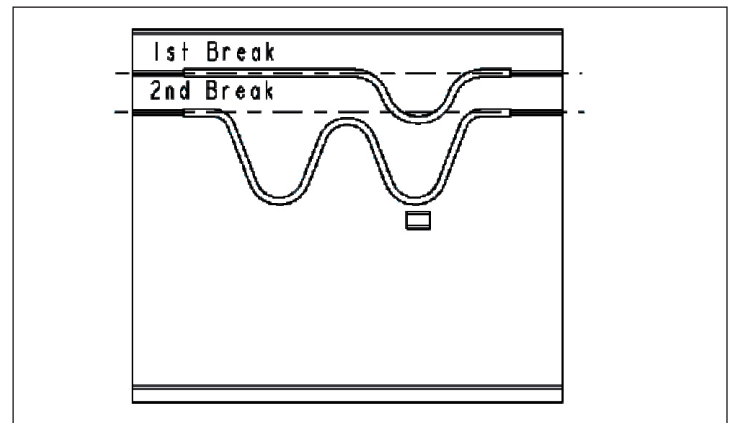

Fig. 2-2 Terminal Shield Cover.
5. Use pliers to break off Terminal Shield Cover per the Breaking Chart below. Press Terminal Shield Cover (Fig. 2-2) into the Secondary Cover. Secure cover with Wire Seal (not included).